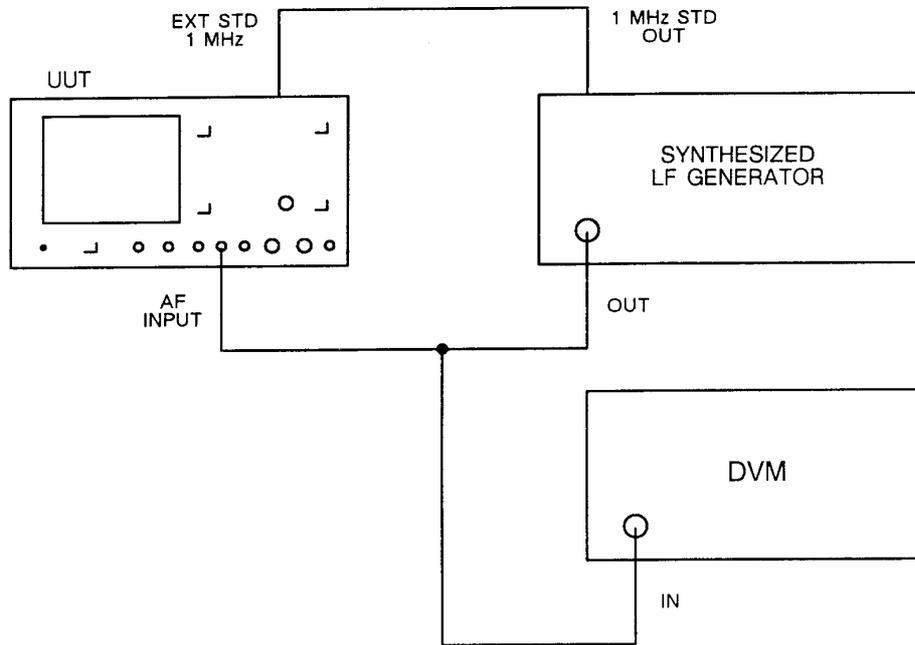

Fig. 5-1-11 Test equipment connections for AF frequency meter accuracy and sensitivity performance checks
- (1) Connect the equipment as shown in Fig. 5-1-11.
- (2) Set the UUT to audio test, distortion off, 50 kHz LOW PASS filter, AC coupled.
- (3) Set the synthesized LF generator to give a 20 kHz sinewave at 50 mV RMS.
- (4) Set the DVM to read AC and RMS.
- (5) Adjust the LF synthesizer output level until the DVM indicates 50 mV.
- (6) Check that the frequency meter on the UUT indicates the frequency set on the synthesizer ± 1 digit ± 0.1 Hz/0.02%.
- (7) Repeat the above for random LF synthesizer frequencies between 20 Hz and 20 kHz.